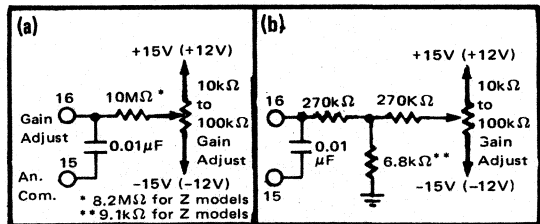

FIGURE 10. Two methods of connecting optional gain adjust with a 0.6% range of adjustment.
**GAIN** - Connect the GAIN adjust potentiometer as shown in Figure 10. Sweep the input through the end point transition voltage that should cause an output transition to all zeros.